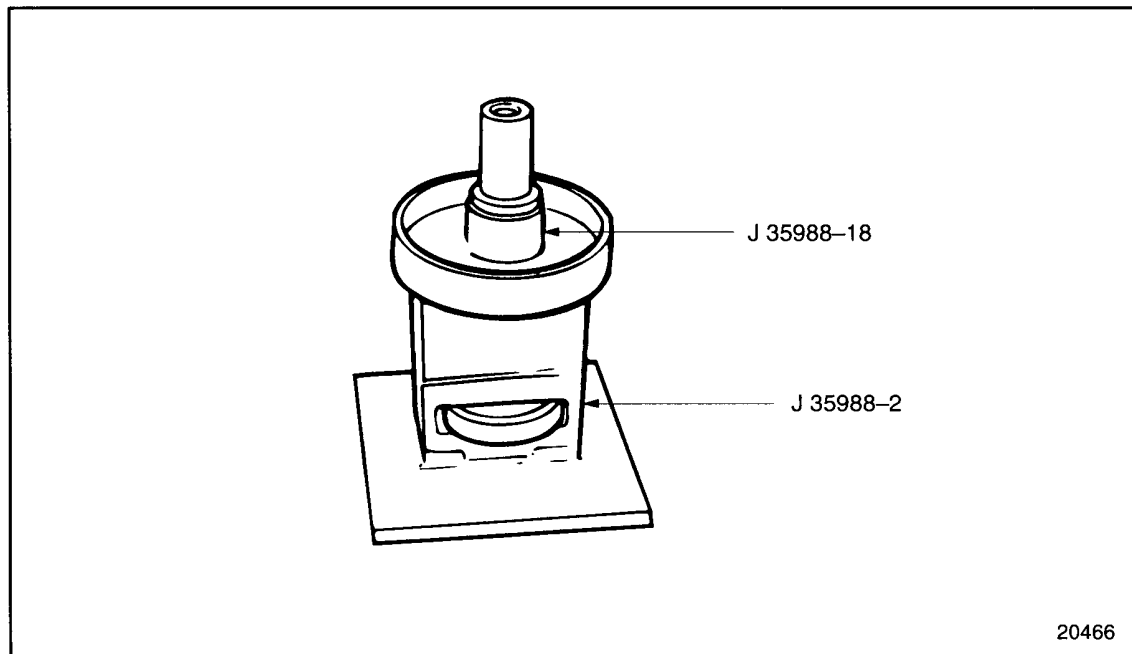

Figure 4-12 **Bearing Installation Set-Up**
3. Using the drive shaft support tool, J 35988-18 part of J 35998-B and the water pump fixture J 35988-2 part of J 35998-B, parts of tool set J 35988-B. Install the support tool into the center of the fixture. See Figure 4-12.